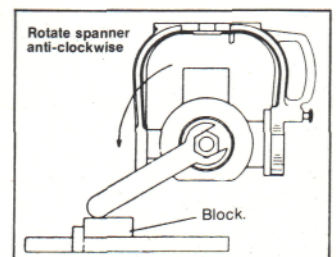

Fig. 24
- (iii) Position a striking block of wood as shown in Fig. 24.